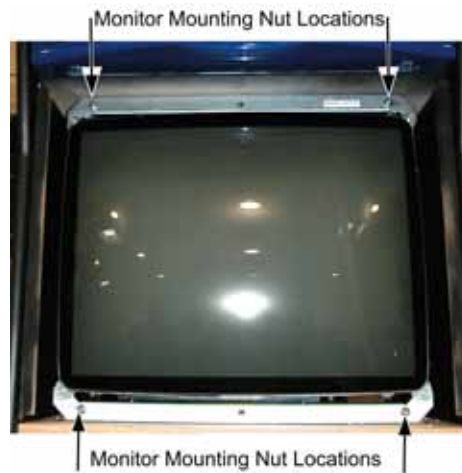

Figure 25. Monitor Mounting Nut Locations
7. Remove the four (4) 1/4-20 monitor mounting nuts, as shown in Figure 25.